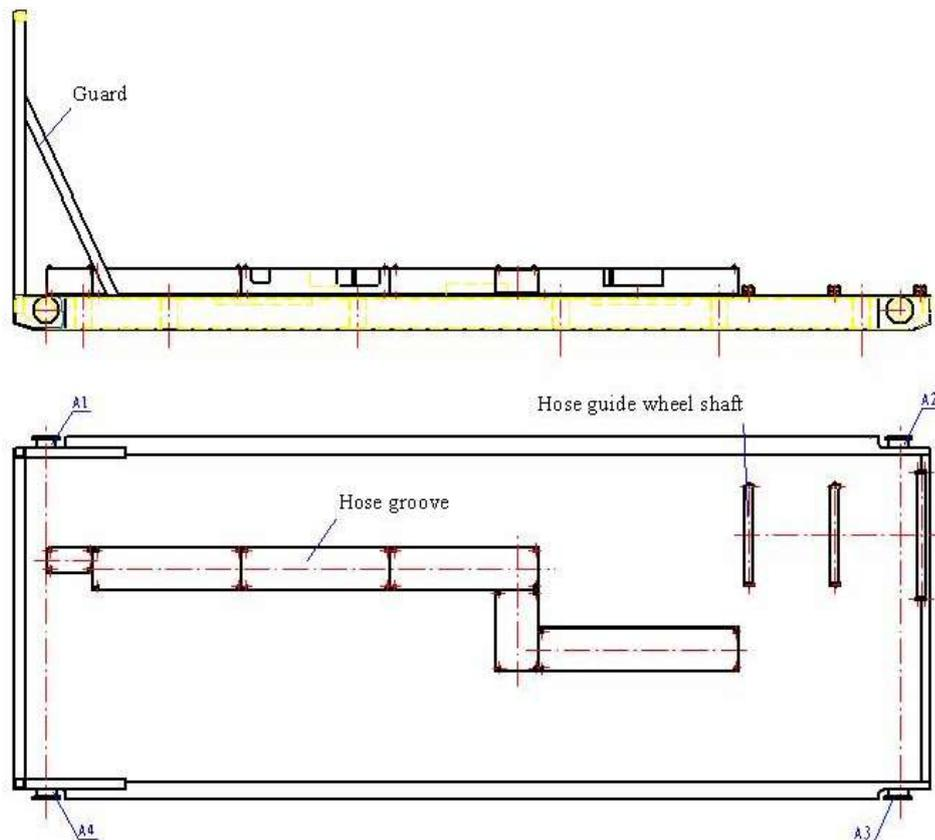

Fig 2-1 Chassis
1.Chassis: All the parts are installed and fixed or put on the Chassis (1), and the chassis is welded using shaped square tube, as indicated in Fig 2-1: